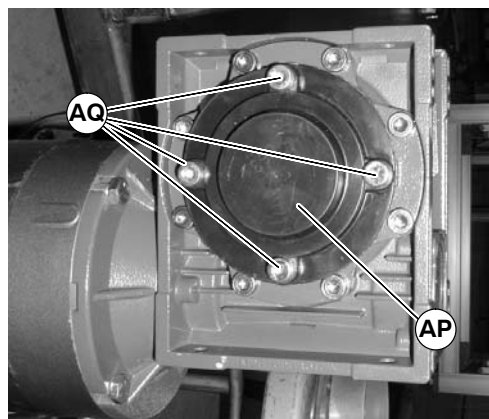

Figure 20
4. Install cover (AP of Figure 20) with four (4) screws (AQ).